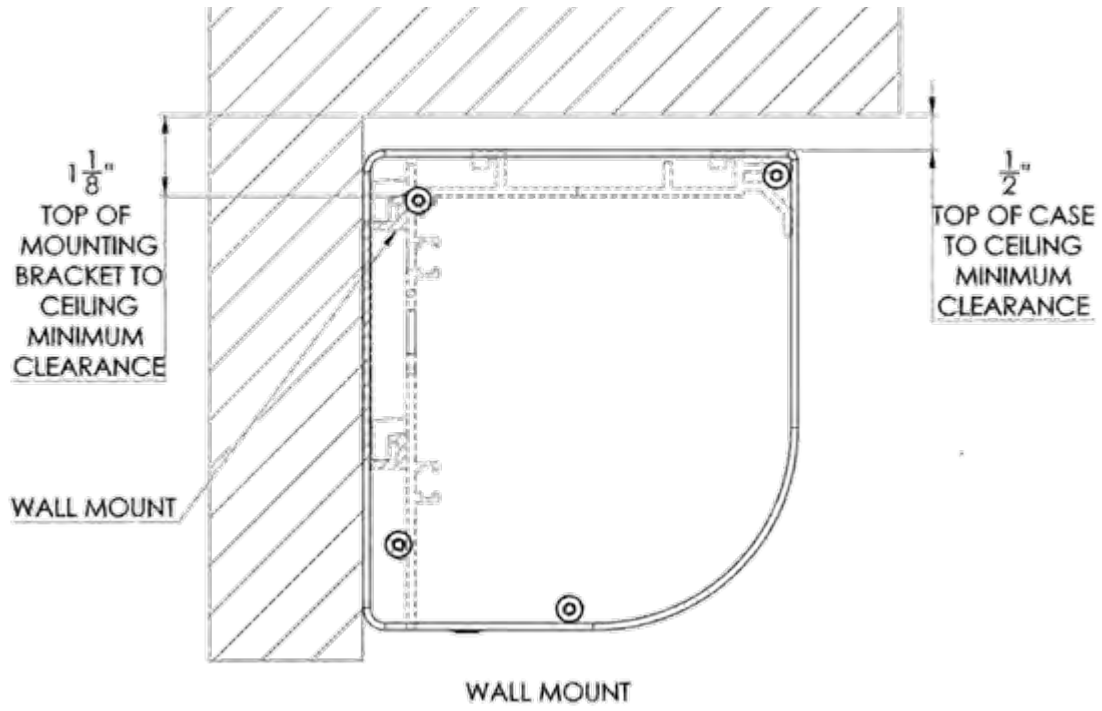

Figure 8. Wall mount detail with minimum clearance
8. For the minimum clearance dimensions, (see figure 8).